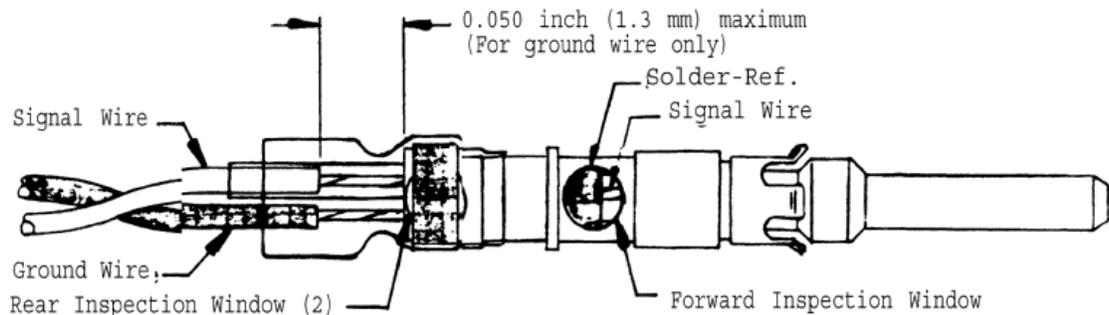

FIGURE 6
5.2.3.1 The signal wire must be visible through the forward inspection window (Figure 6) and must be under (inside) the solder preform.
5.2.3.2 Ground conductor should be positioned BETWEEN the two rear inspection windows (Figure 7B), and not directly IN either window (Figure 7A). It must not extend into the forward inspection windows. The trimmed insulation end should be within the dimensional limits of Figure 6.